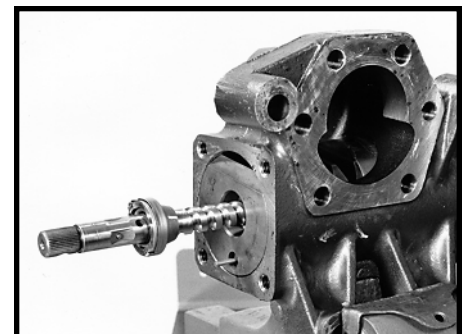

Figure 130
25. Position the rack piston (31) so that it is flush with the valve housing end of the gear housing. Rotate the worm shaft (17) until it extends out of the rack piston as far as it will go. SEE FIGURE 130.